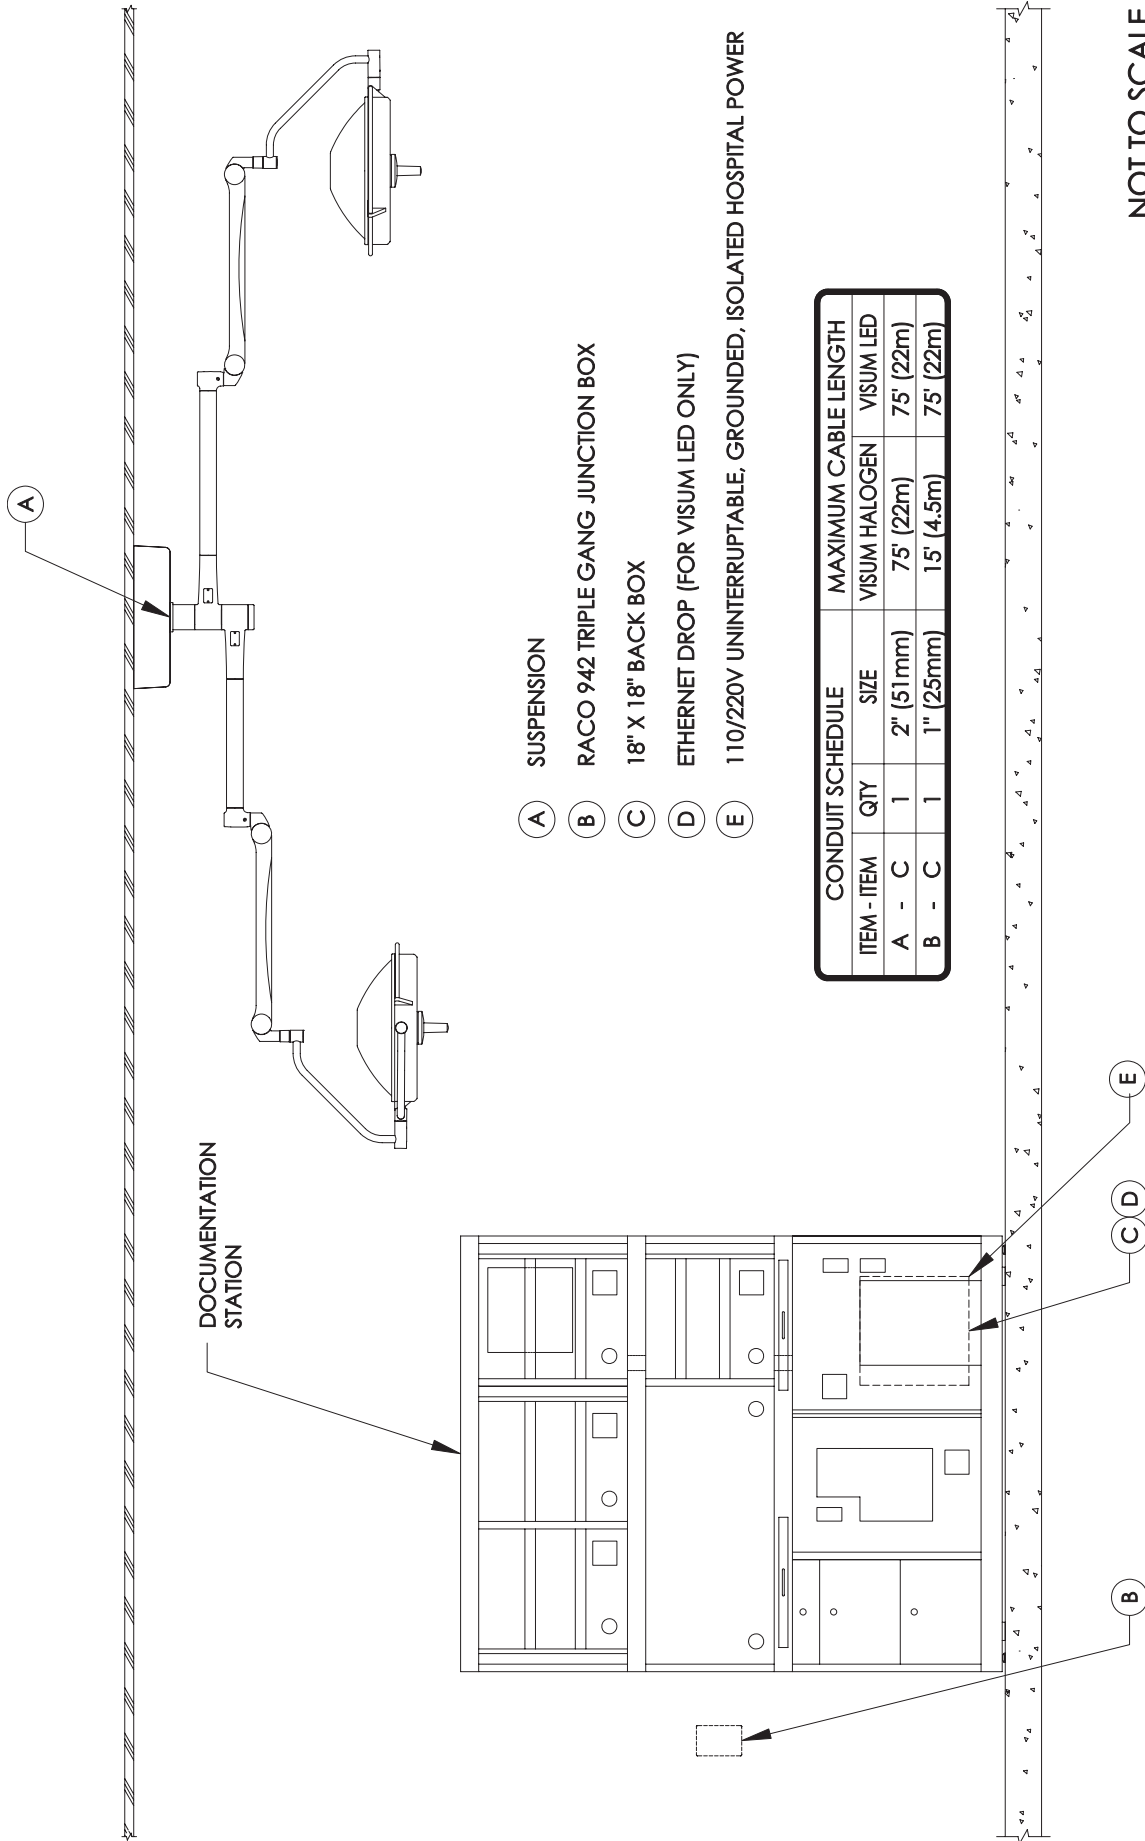

Figure 10: Electrical Installation with Power Supply Box & Documentatin Station
**Note** Maximum cable lengths specified in Conduit Schedules (Figures 10, 11 and 12) indicate the maximum length of cables routed through conduits. Ensure that the cable distance between the components (e.g., suspension and power supply box) does not exceed the specified lengths.
5. Install conduits as specified in Figure 10.
**Note** All components must be located so that conduits do not exceed the maximum lengths specified in Figure 10.